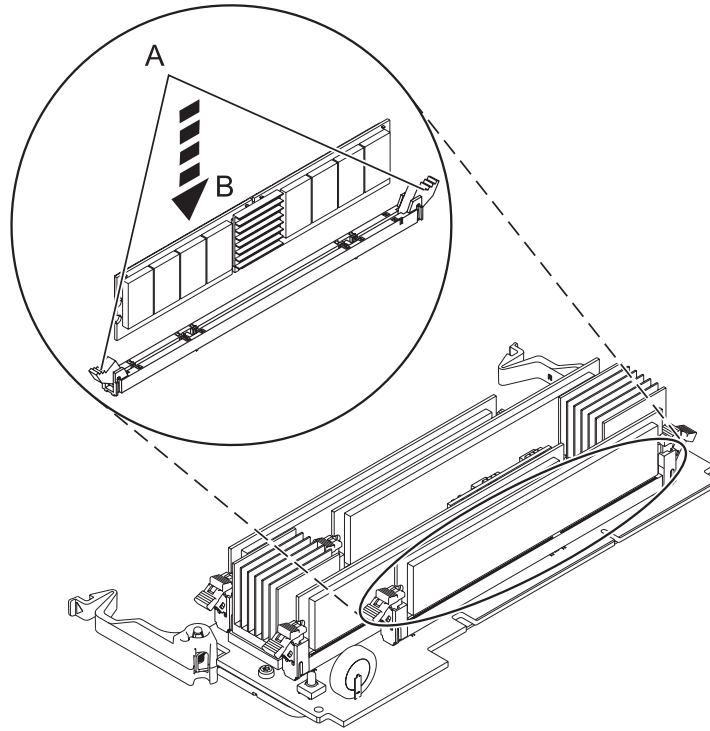

Figure 5. Installing a memory module
12. Ensure that the connector locking tabs (A) are pushed into the unlocked position, as shown in Figure 5 on page 12, before installing a new memory module.
13. Carefully grasp the memory module along the edge (B) and align it with the connector.